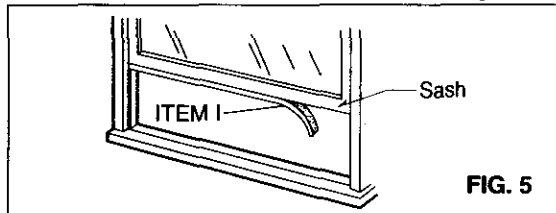

FIG. 5
- 3 Cut the FOAM STRIP (ITEM I) to fit the underside of the window sash. Peel off the backing and attach the FOAM STRIP as shown in Fig. 5.